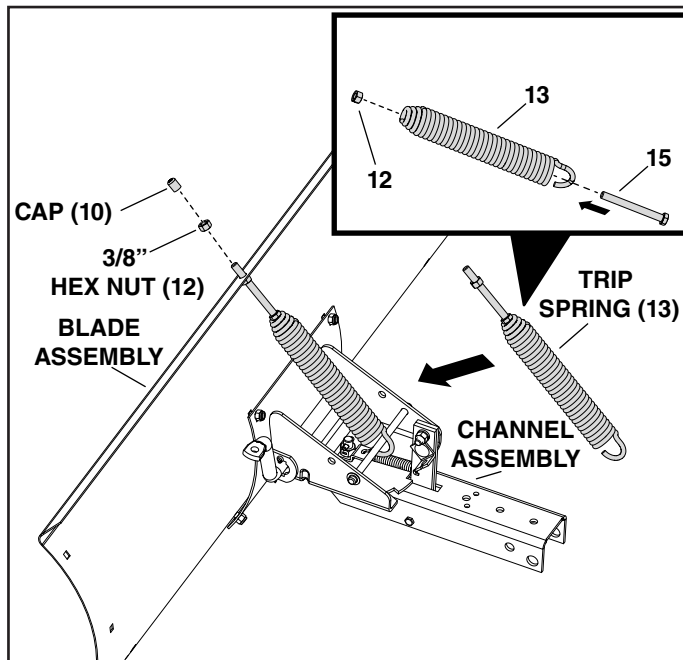

FIGURE 5
1. The tension of the blade adjust spring may be altered to permit the blade to tilt forward to bypass solid obstructions. To change the spring tension, adjust the nuts at upper end of the spring bolt. Standing in front of blade, turn the nuts counterclockwise to relieve tension and clockwise to increase tension. Refer to figure 5 on page 5.